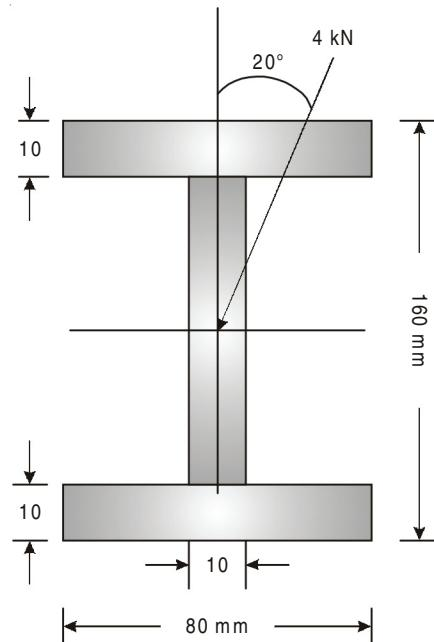

Fig. 12.29
7. A simply supported I section beam of span 2 m carries a concentrated load of 4.0 kN at an angle of 20° from vertical as shown in Fig. 12.29. The load passes through CG of the section. Determine the maximum bending stress in the beam.